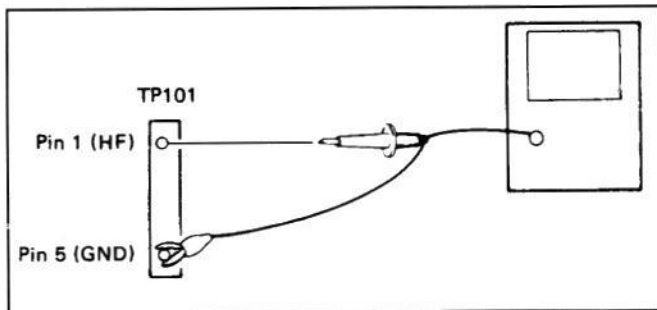

Figure 12: Observe the RF output at pin 1 (HF) of TP101 with the oscilloscope.
• Observe the RF output at pin 1 (HF) of TP101 with the oscilloscope (Figure 12), and adjust the tangential screw (Fig-